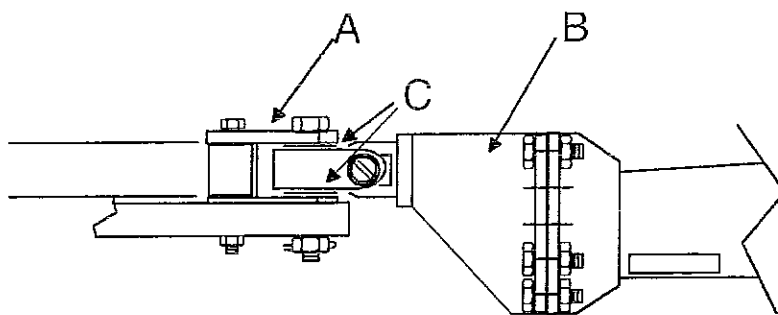

Figure 7. Drawbar Installation
When hooking the harvester to the tractor, refer to Figure 7 and the procedures below.
8. Attach the harvester to the tractor with yoke weldment (Figure 7-A) and bolts provided. Be sure to install the hardened washers (C) between the yoke and the tractor drawbar. The existing tractor clevis may be used if a 3" spacing can be maintained. If the tractor drawbar mounting hole is smaller than 1 3/8", a 1 1/4" pin is available from your Art's Way Dealer (AW Part No. 456220). If the tractor drawbar mounting hole is larger than 1-3/8", a bushing should be installed.
9. Cycle the lift cylinder and observe the lift height. Reposition the front bolt-on hitch (Figure 7-B) to obtain the desired lift height, while still allowing adequate penetration into the ground.